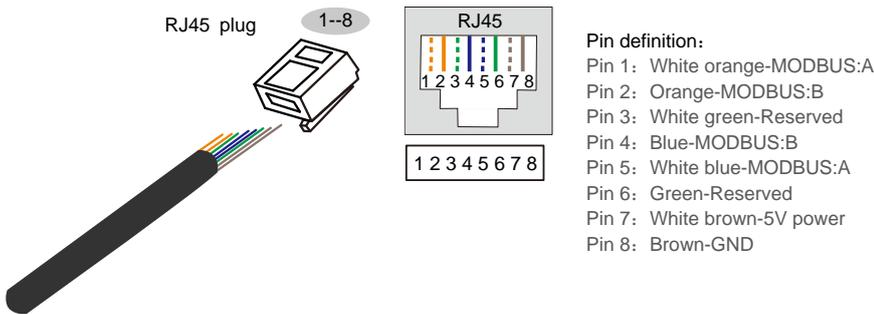
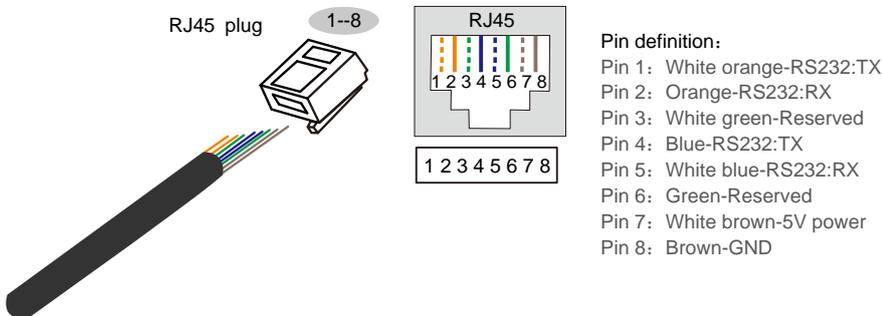

Figure2-13 Pin definition of MODBUS
Figure2-14 Pin definition of RS232
| ⑨   | MODBUS port and RS232 port | Communication protocol support MODBUS RTU or Kehua standard serial port protocol, switch it by touch screen. MODBUS/RS232 port adopts RJ45 plug to connect, the Pin definition as shown in Figure2-13, Figure2-14. |
1. MODBUS port is used for MODBUS serial port communication, which is to communicate with upper computer. MODBUS port adopts RJ45 plug. The pin definition as shown in Figure2-13.
2. RS232 port is used for RS232 serial port communication, which is to achieve the external SNMP card communication. RS232 port adopts RJ45 plug. The pin definition as shown in Figure2-14